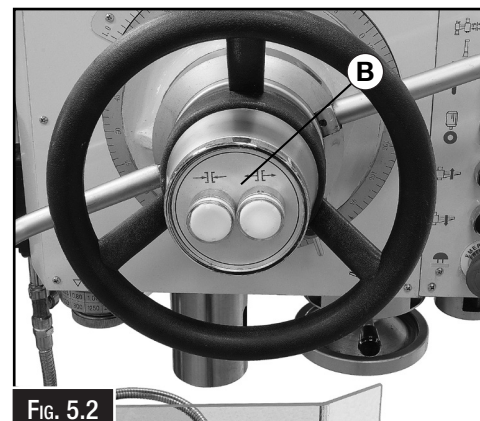

FIG. 5.2
After the power is connected, release the clamps by pressing the release button on the headstock.(B in Fig. 5.2) then move and swing the column to make sure the clamps have been released.
- B. Clamp Buttons:** Activates the clamps for both the swivel of the column and movement along the radial arm. (Fig 5.2)